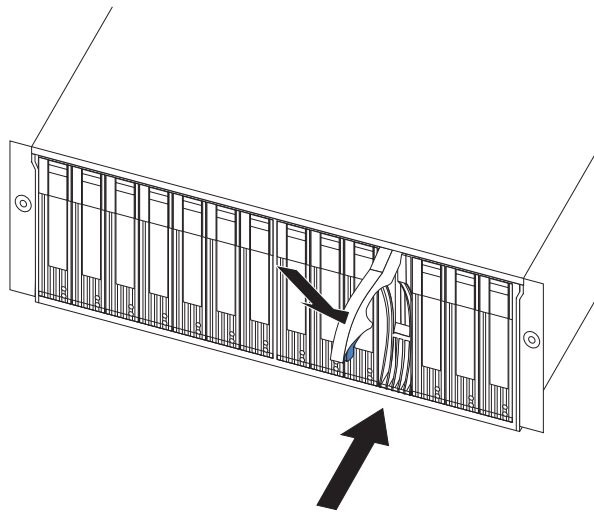

Figure 38. Closing the hot-swap hard disk drive tray handle
- d. Push the tray handle down into the closed (latched) position, as shown in Figure 38.